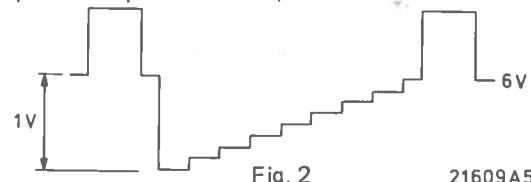

Fig. 2
- c. Adjust brightness control until the black bar's level in the video signal is at 6 V (refer to Fig. 2). Adjust contrast control R454 until the amplitude of the video signal is at 1 Vpp. Adjust saturation control for 5,5 VDC on pin 2 of IC801.